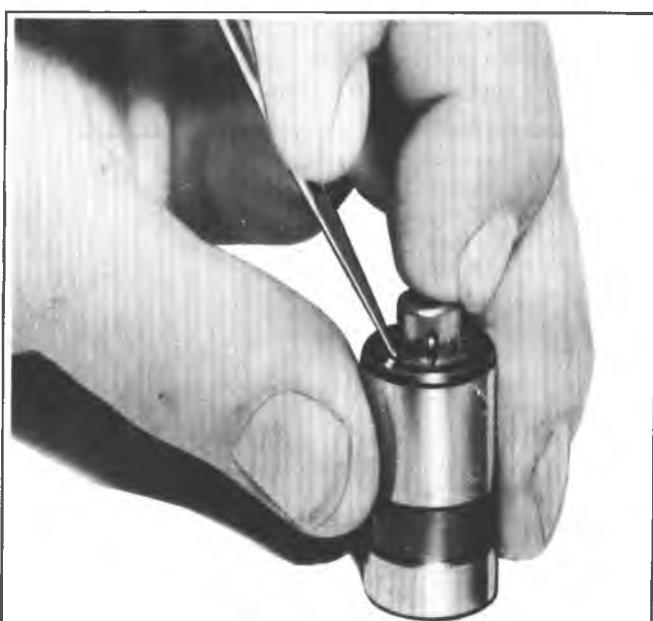

Fig. 6A1-14--Installing Ball Check Valve
- Insert check ball spring on seat in ball retainer and place retainer over ball so that spring rests on the ball. Carefully press the retainer into position in plunger with the blade of a small screw driver (fig. 6A1-14).
- Fill the assembly with SAE 10 oil, then insert the end of a 1/8" (3mm) drift pin into the plunger and press down solid. (Do not attempt to force or pump the plunger). At this point oil holes in the lifter body and plunger assembly will be aligned (fig. 6A1-15).